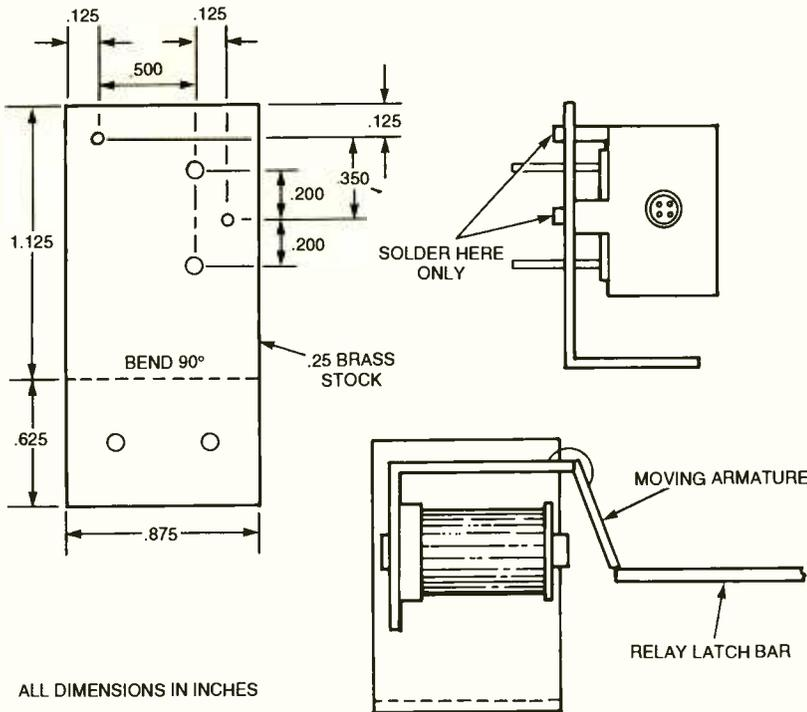

Fig. 3. Solenoids provide the control for the spring-loaded doors. This figure shows how to properly mount the two solenoids required.
the type used for circuit boards—and start nubbling one of the corners of the plastic casing. Continue until a small hole appears, and then you can use small needle-nose pliers to gently break off more and more of the casing. Once you have the relay coil and contacts free of the black casing, start removing the contacts. Carefully trim the plastic that holds the contacts in place. The common contact that is riveted to the moving armature must be cut off using sheet metal snips. Be very careful not to damage the coil or armature spring. Figure 3 shows what the solenoids should look like when the modification is all done.
The solenoids must be attached to a mounting bracket. Fashion two mounting brackets from .025-inch brass stock and drill all the holes shown in Fig. 3. Clean the burrs and sharp edges from the holes and bracket. The solenoids must be soldered to the brackets using a soldering gun or a very hot iron. If you use fast, high heat, you will be less likely to damage the coil or plastic parts of the solenoids. Place heat shrink or some type of insulation on the coil wires so that they can't create a short on the bracket. Set the solenoids aside for now. They will be mounted later.
**Solenoids—Part 2.** Now that the doors function without binding, it is time to install the solenoids on to the main housing. Start by opening one of the doors. Hold one of the solenoids in place, while referring to Fig. 3. Line up the relay latch bar just under the solenoid-moving armature, and mark the holes of the solenoid bracket onto the main housing.